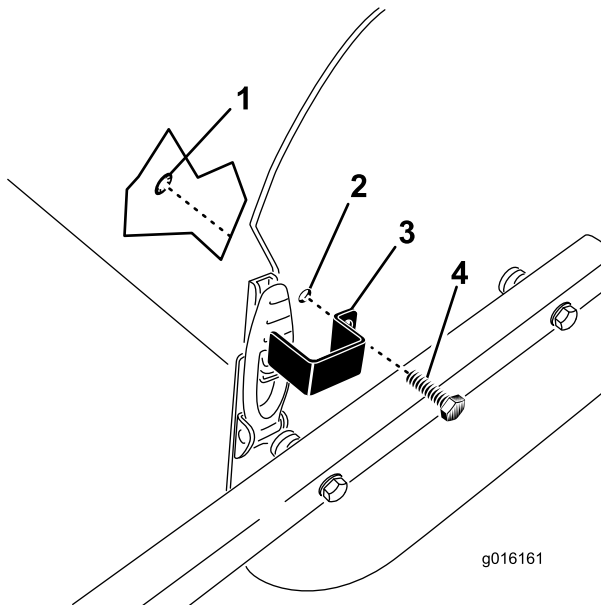

Figure 33
1. Position the latch plate over the hood latch while aligning the mounting hole with the hole in the side plate (Figure 33).
2. Secure the latch plate to the side plate with a tap bolt and a retaining ring (Figure 33).